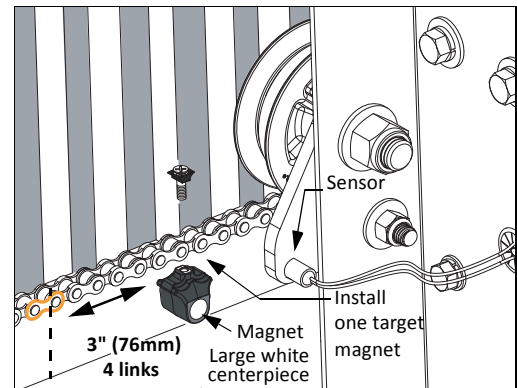

Figure 1-18.
5. Fasten the target magnet to the chain link as shown in Figure 1-18. Make sure the large white centerpiece is facing toward the operator. Insert the screw and tighten it securely.
If “ALERT 15 - NO TARGET” appears on the display after the target magnet has been installed and a full gate cycle completed (steps 6 & 7), it means that the target magnet has not been detected by the operator. Check chain alignment and make sure the target magnet is positioned properly and passes across the face of the sensor. See Figure 1-18. Repeat steps 6 and 7.
9. If "LEARN OPEN" appears, then the target magnet was not detected. Check chain alignment and make sure the target magnet passes across the face of the sensor. See Figure 1-18. Repeat steps 6 - 8. If you are still having difficulty with the operator learning its limits, re-install the target magnet. See *Establishing the OPEN & CLOSE Limits* on page 1-12.